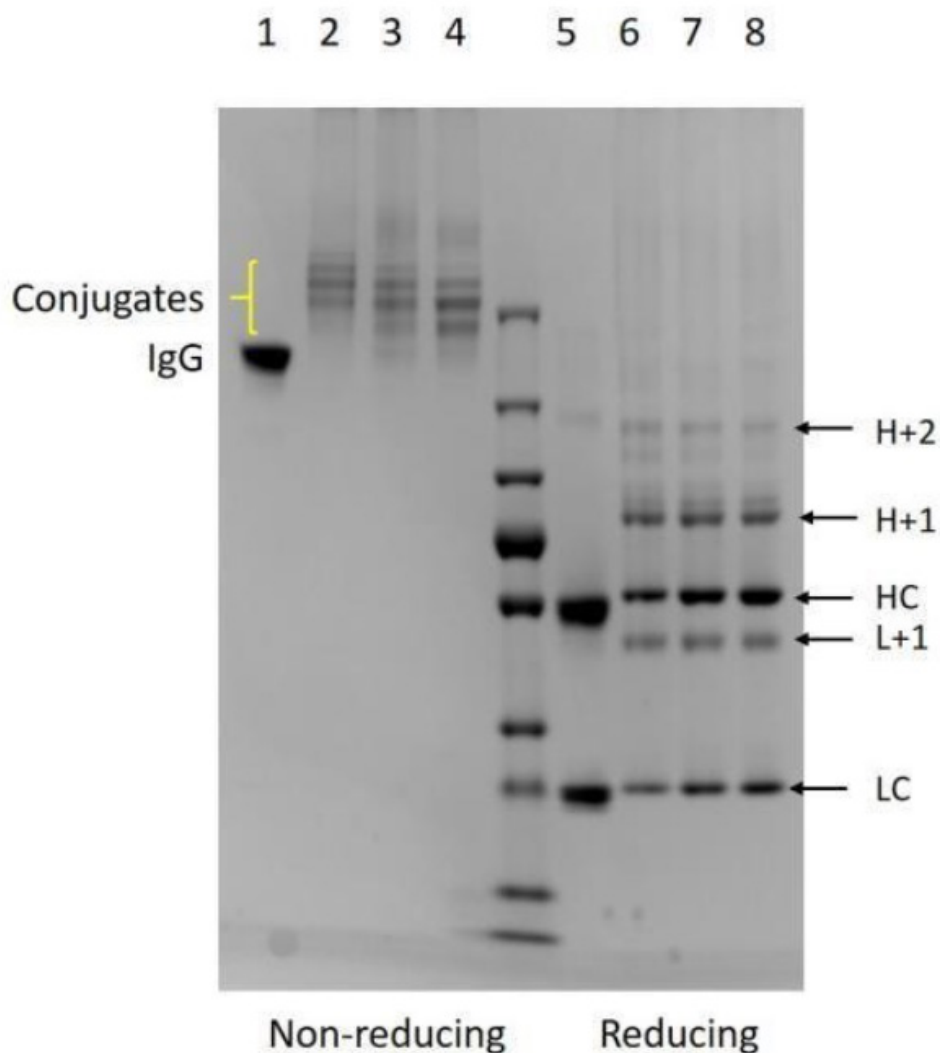
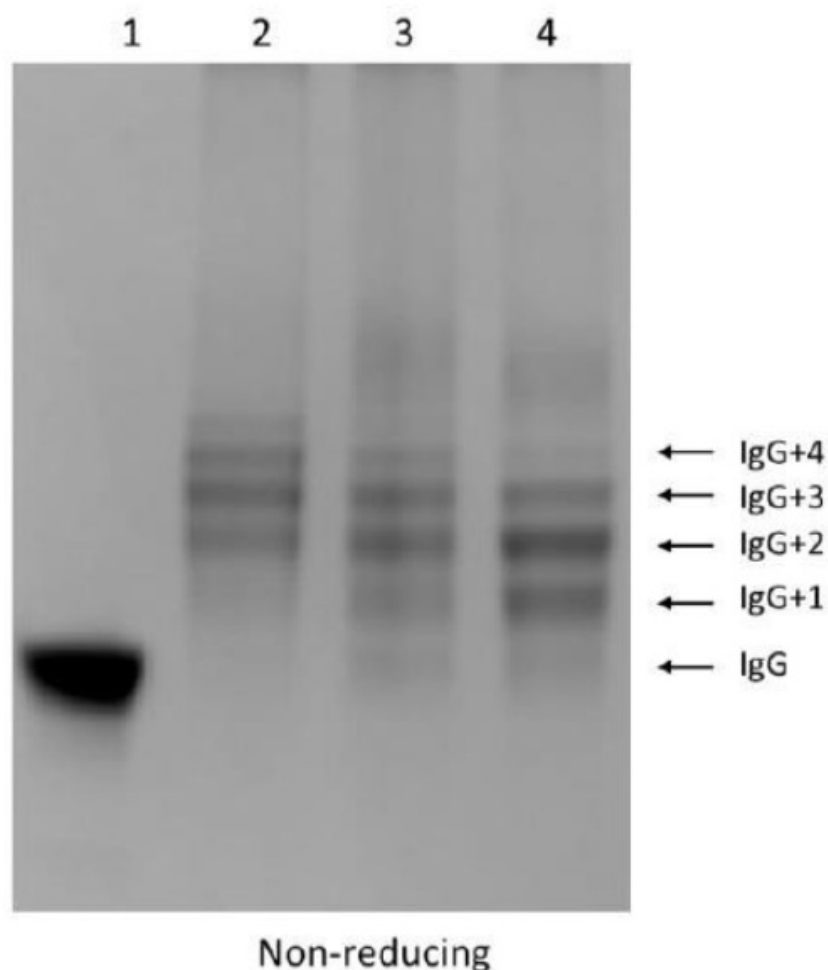

Fig 2.
Fig 3.
12.4. Discrete conjugate bands are more commonly seen with monoclonal antibodies and with lower loadings than those used above. In Fig. 2, Tracks 2 and 6 were loaded with 2 μg of conjugate produced under non-reducing or reducing conditions. At this lower loading, the H+2 band is still visible but H+3 (not labeled
on Fig. 2) is faint. On the non-reducing gel, the number of oligos attached to IgGs is readily determined. Further commentary and details of the other samples (Tracks 3, 4, 7 and 8) are given below. A magnified view of the IgG conjugates in Fig. 2 is shown in Fig. 3.
12.5. In Fig. 3, track 2 shows no free IgG and very little IgG with 1 oligo attached. Mostly there are 2-5 oligos per IgG (IgG+5 is not marked by an arrow above). In tracks 3 and 4, the conjugation reactions comprised, respectively, 20 μg in 10 μL and 20 μg in 20 μL . Not surprisingly, the labeling
12.6. The differences among the samples under reducing conditions (Tracks 6, 7 and 8, Fig. 2) are less pronounced and the main observation is increasing H or L chain intensity as conjugation efficiency is reduced. For each application, it may be necessary to determine the gel profile that is associated with best assay performance, and non-reducing gels are generally more useful.